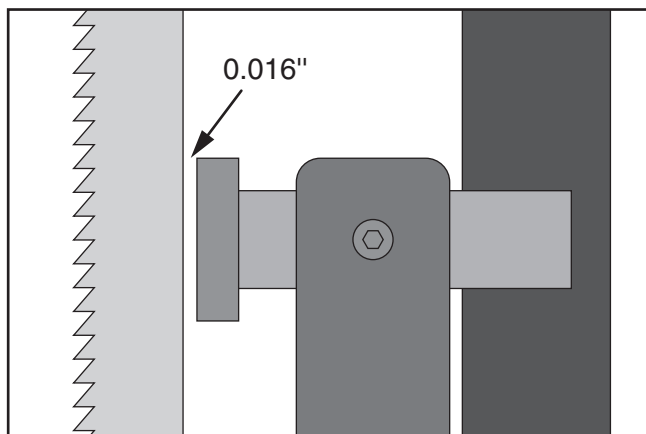

Figure 20. Bearing positioned approximately 0.016" away from back of blade.
3. Position support bearing approximately 0.016" away from back of blade, as illustrated in **Figure 20**.